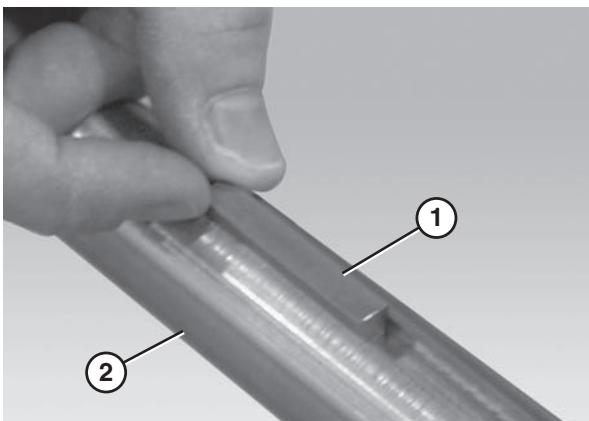

Figure 60
- Remove the drive spindle key (**Figure 60, item 1**) from the drive spindle keyway (**Figure 60, item 2**).